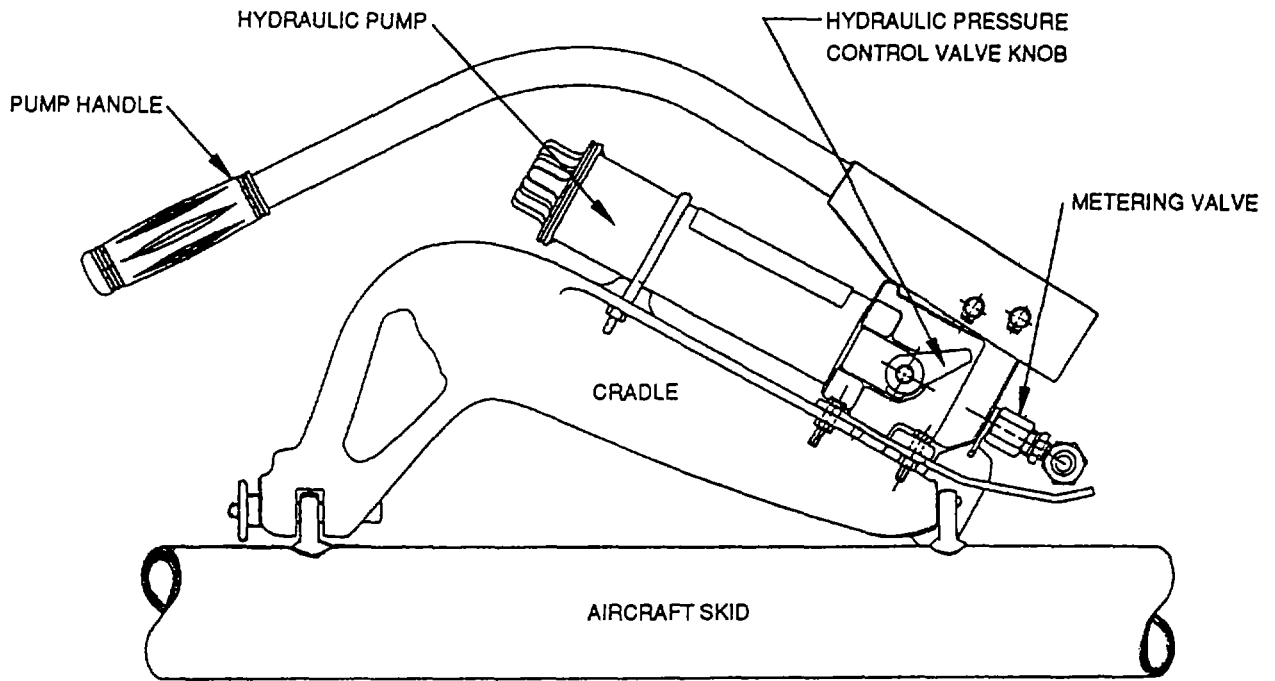

Figure 2-2. Hydraulic Control Components (Typical)
**2-3.2. Hydraulic Pressure Control Valve Knob Use.** The pressure release knob is part of the pressure control valve in the pump body. The control valve must be closed when pumping up pressure to lift the helicopter, and must be opened to lower the helicopter. The control valve pressure release knob must be rapidly turned to ensure proper operation of the metering valve. Refer to figure 2-2.
**2-3.3. Hydraulic Pressure Metering Valve Use.** The metering valve is installed in the pump outlet, to restrict the flow of hydraulic fluid from the rams to the pump when pressure is released. This ensures that the helicopter is lowered at a slow and safe rate. The pressure release knob must be rapidly turned to ensure proper operation of the metering valve. Refer to figure 2-2.